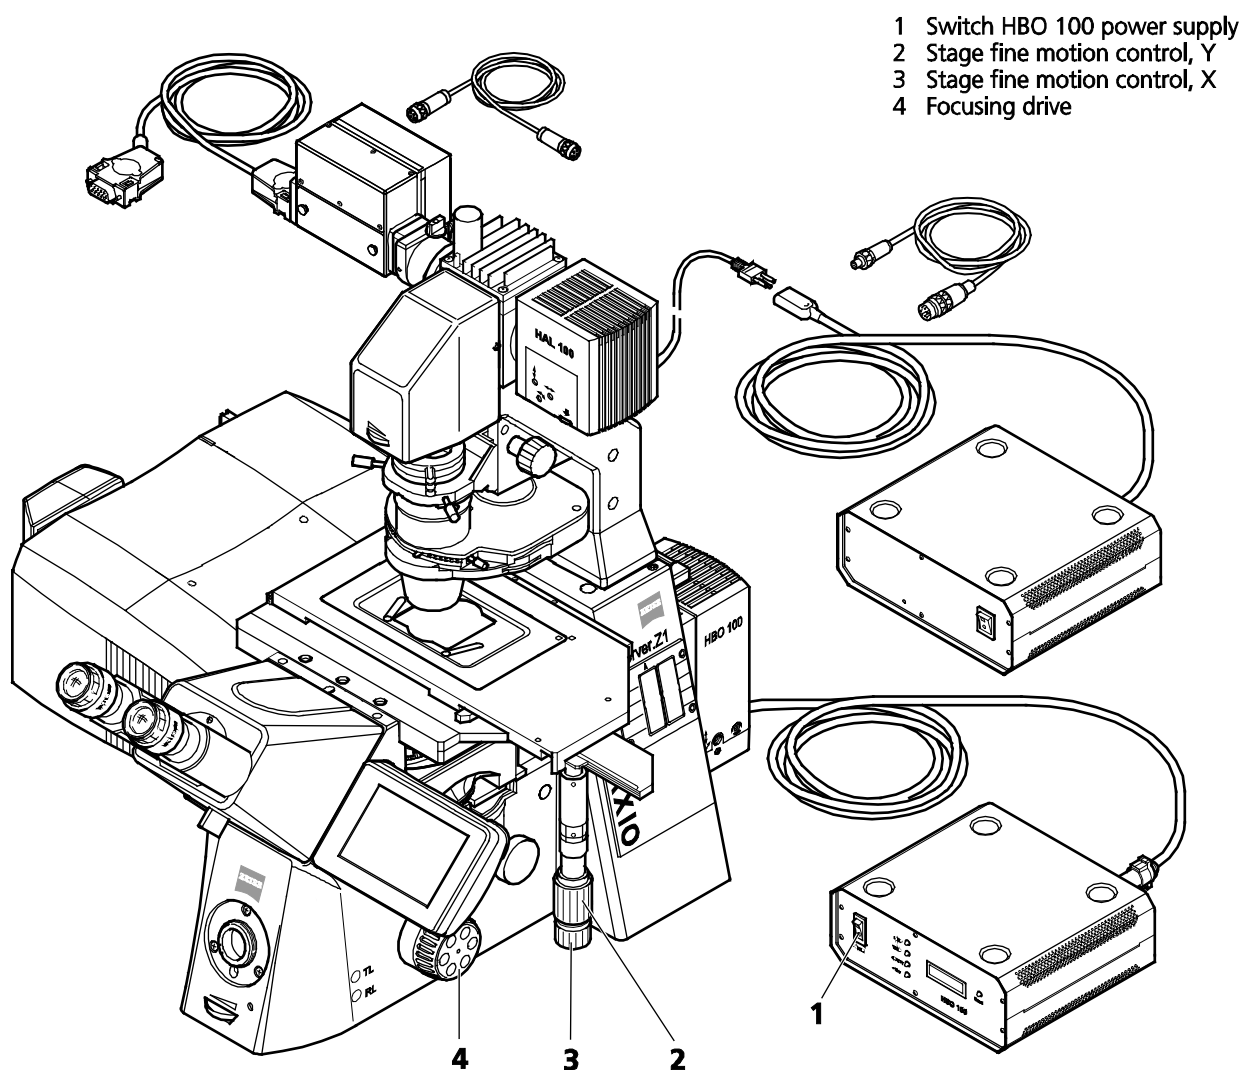

Fig. 59 LSM 710 / LSM 780 with Axio Observer.Z1
- Use the focusing drive (Fig. 59/4) to focus the required specimen plane.
- Select specimen detail by moving the stage in X and Y via the XY stage fine motion control (Fig. 59/3 and 2).
(3) Microscope settings on Axio Observer for reflected-light observation (Epi-fluorescence)
- Turn on the HBO 100 power supply switch (Fig. 59/1).